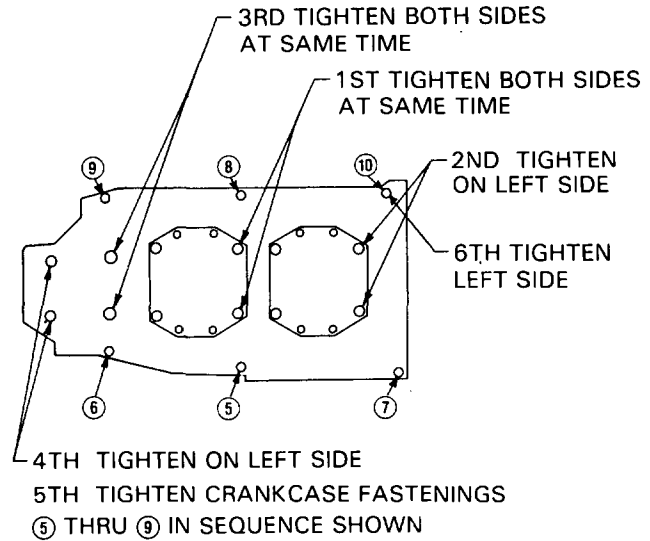

Figure 1. Left Side of Crankcase
1. Before the cylinders are assembled on the crankcase, install torque plate P/N ST-222 over the 1/2 inch thru-studs to simulate the thickness of the cylinder base flange; then install nuts on the free ends of 1/2 inch thru-studs and tighten each to 300 in. lbs. (25 ft. lbs.) Use tightening sequences that follow Figures 1 through 11.
3. Using sequences shown in figures 1 thru 11, tighten the 3/8-inch and 1/4-inch nuts at the crankcase parting flange. Torque values are:
a. Four Cylinder Engines, Wide Cylinder Flange (See Figure 1).